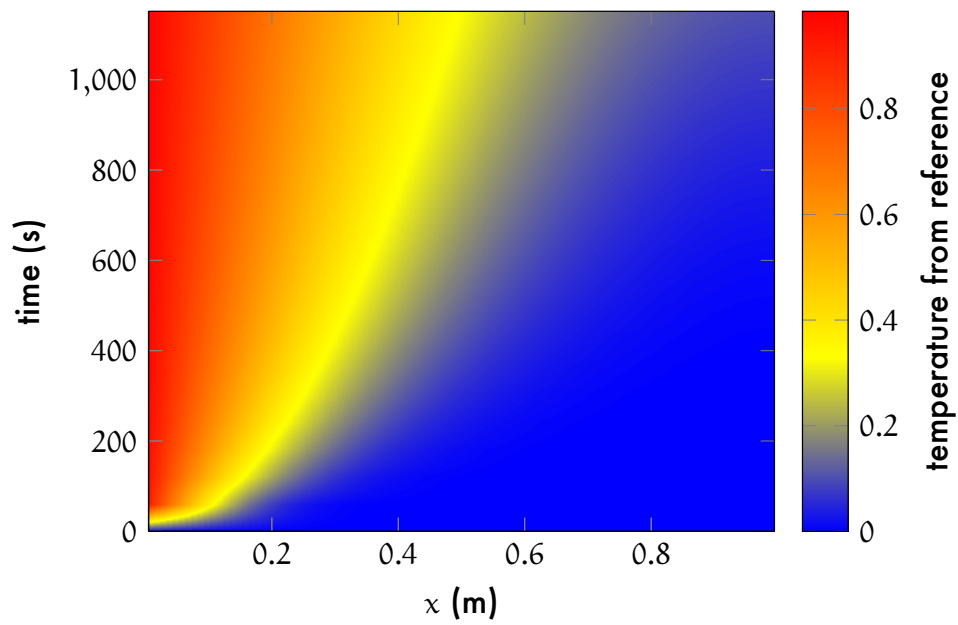

Figure fem.3: spatiotemporal thermal response.
• Now we're ready to plot. The result is shown in Fig. fem.3.